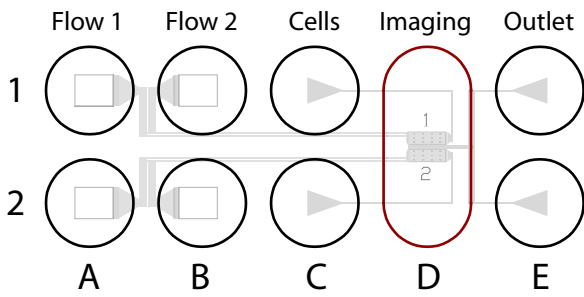

Figure 1 Well Layout
1. The Y2(D) microfluidic unit consists of 2 independent flow units as depicted in Figure 1. Each unit has 2 inlets, a cell loading, an imaging area, and an outlet. The plate is shipped pre-primed with sterile dl water containing penicillin/streptomycin, which can be replaced with a buffer of choice prior to experiment.